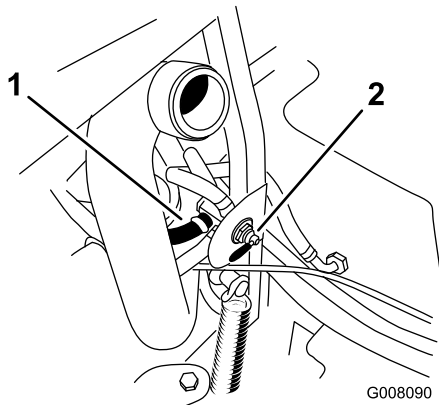

Figure 4
14. Remove the existing fuel selector valve. Refer to Figure 4. Save the existing software.